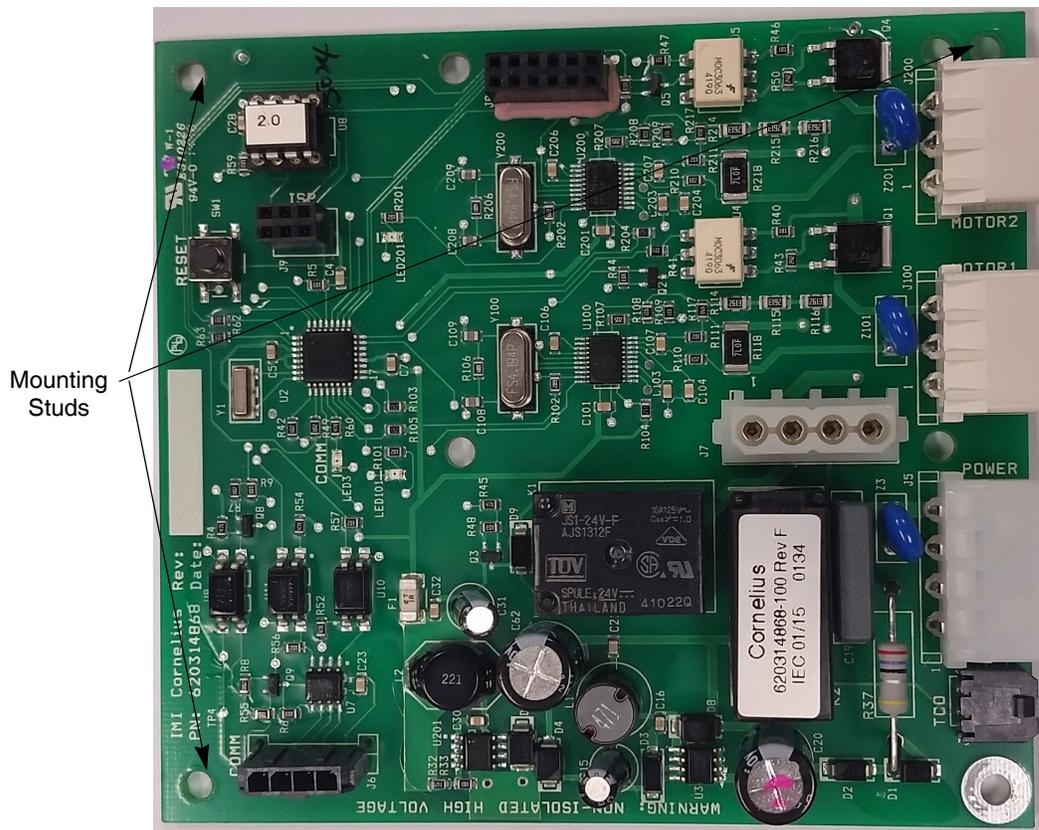

Figure 54. View of Motor Board in E-Box
The motor board is located in the E-Box, to the right of the control board. It is mounted to the panel on three (3) plastic mounting studs and a threaded standoff, shown in Figure 54. To replace the motor board, perform the procedure in Table 61.